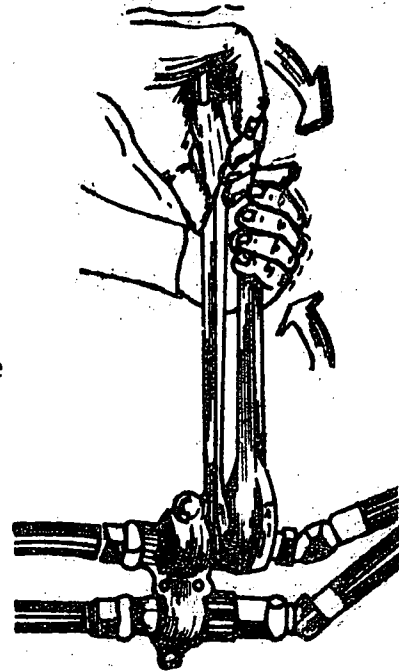

Fig. 3
- a) Screw the swivel of the hose to the fitting of the oil outlet (Fig. 3).